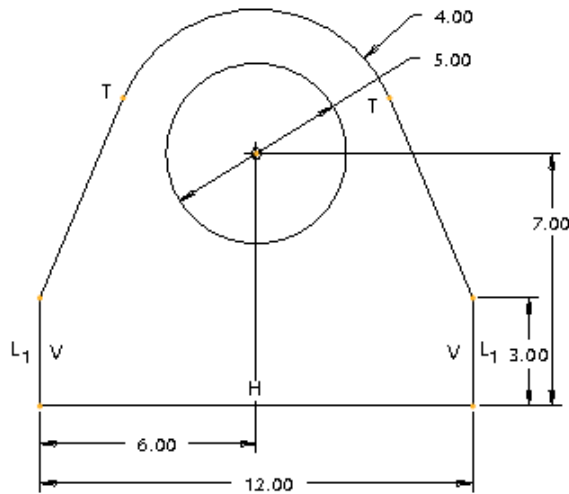

Figure 2-26 The complete sketch with dimensions and constraints
- Dimension the sketch and then modify the dimensions of the sketch, refer to Figure 2-26
5. Modify all dimensions according to the dimensions shown in Figure 2-26. After modifying the dimensions, choose the **Done** button from the **Modify Dimensions** dialog box; the
The completed sketch is shown in Figure 2-26.